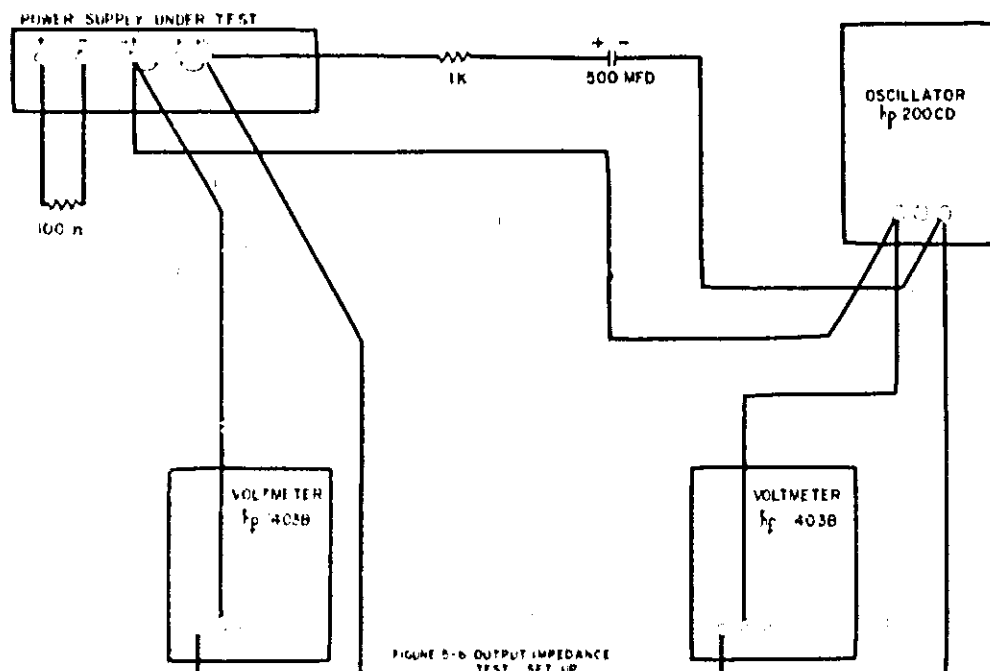

FIGURE 5-6 OUTPUT IMPEDANCE TEST SET UP
- a. Connect test setup shown in figure 5-6.